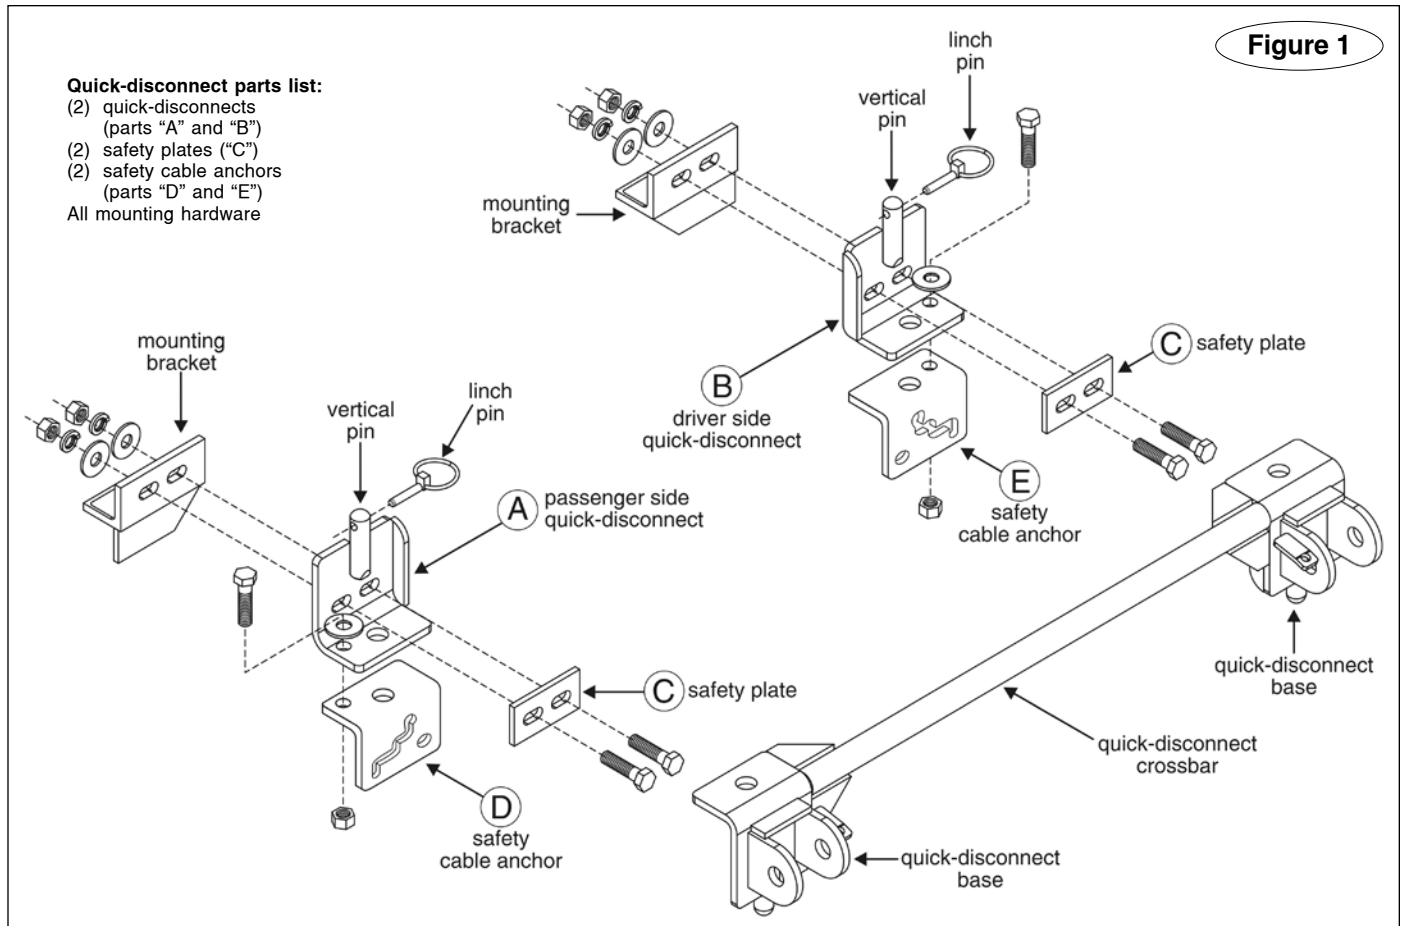

Figure 1
1. First, attach the quick-disconnects ("QDs," parts "A" and "B" in Figure 1) to the tow bar mounting brackets. Attach the QDs so that the vertical pin on each is pointing up, as shown in Figure 1.
Attach part "A" on the passenger side and part "B" on the driver's side. Use the supplied  $\frac{1}{2}$ " x  $1\frac{3}{4}$ " bolts, the two safety plates (parts "C"), and the flat washers, lock washers and nuts, as shown in Figure 1.
Both QDs have cable anchors – parts "D" and "E" in Figure 1 – designed for safety cable attachment. Bolt cable anchor "D" to part "A," and cable anchor "E" to part "B," using the supplied  $\frac{1}{2}$ " bolts, washers and nuts.